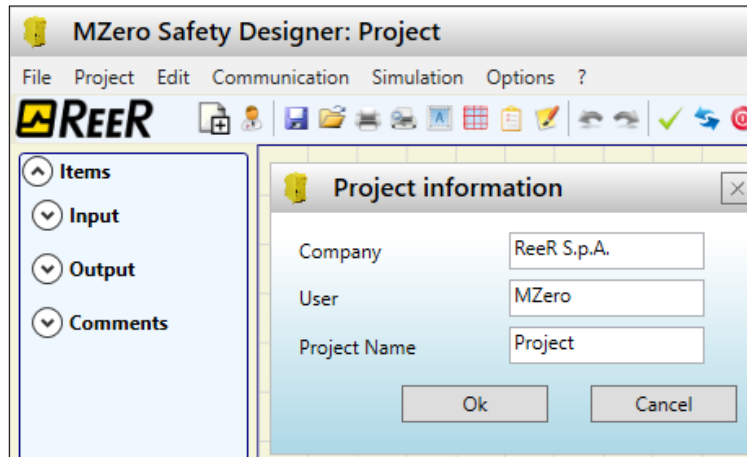

Figure 16
- Select icon CREATE (Figure 14) from the standard tool bar to start a new project. The user authentication window is displayed (Figure 16).